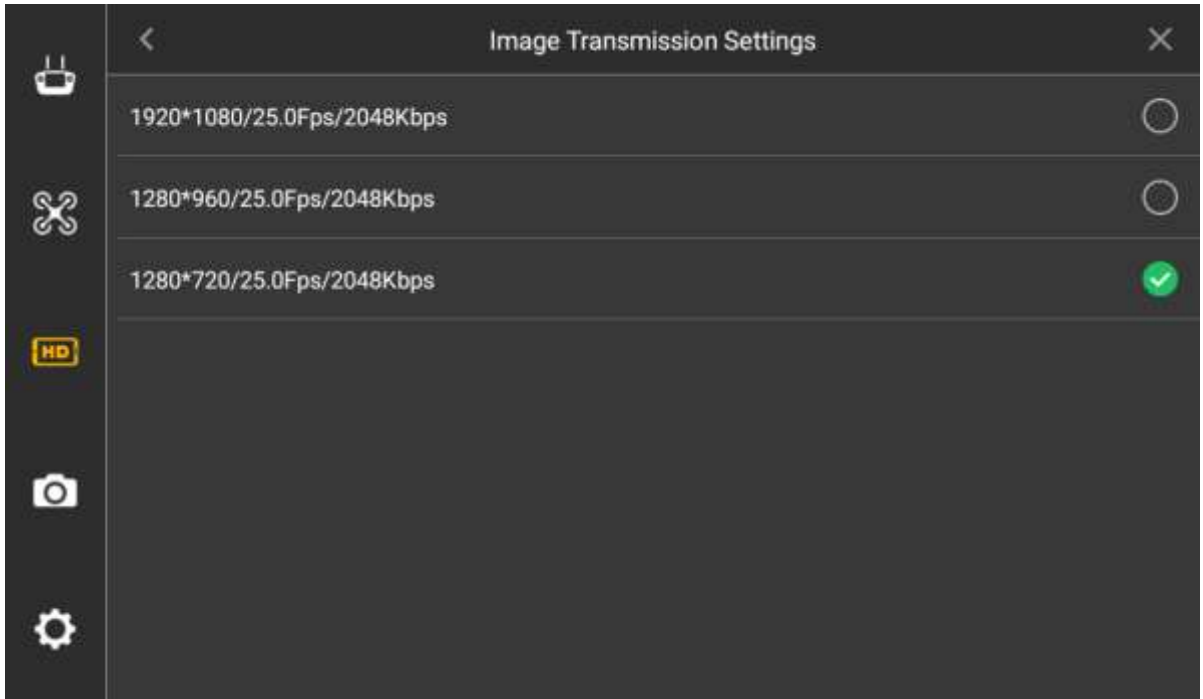

Figure 4-28
Step 2 Select "Image Transmission Settings", and the system will display the interface of "Image Transmission Settings", as shown in Figure 4-28.